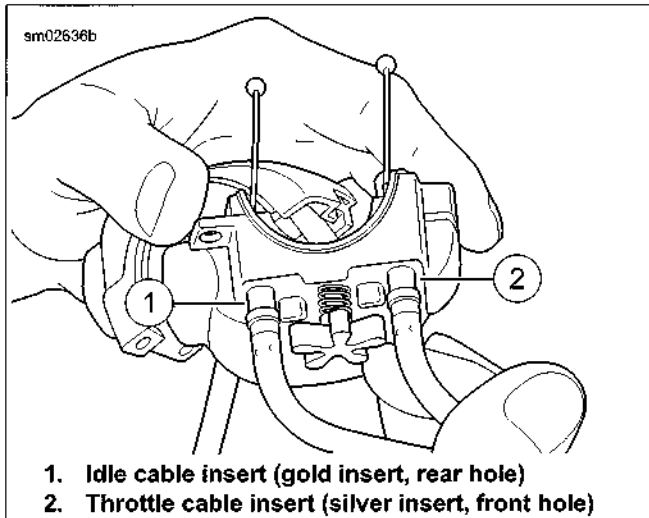

Figure 2-119. Throttle Cable Inserts
2. See Figure 2-119. Attach cables to lower housing with retaining rings.